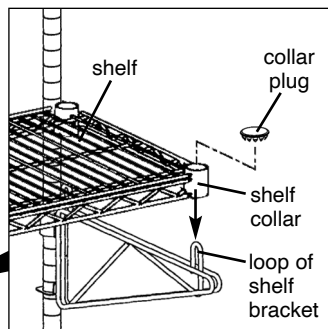

figure 6
- Lay each shelf on top of wall brackets, and cover shelf collar openings with collar plugs (see figure 6).